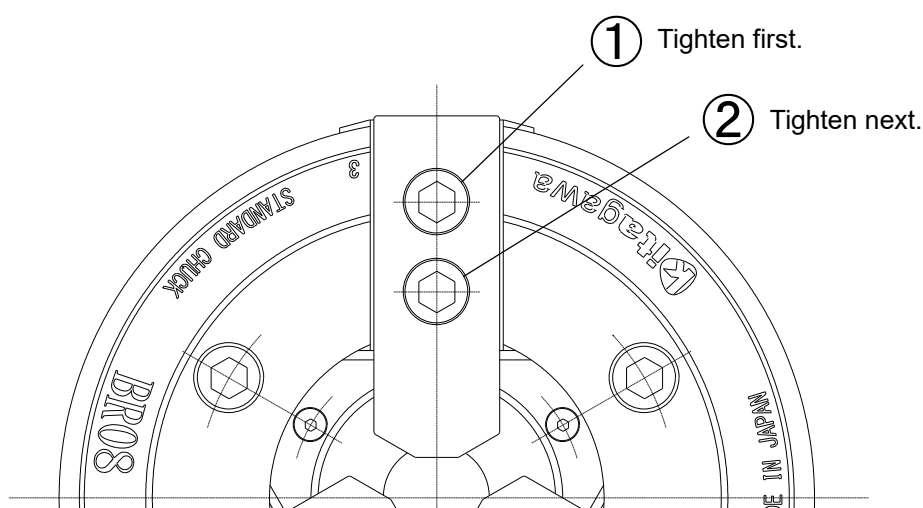

Figure 12-2 Tightening order of the jaw mounting bolts
- To maintain the installation repeatability of the Tnut-Plus for a long period of time, always tighten the jaw mounting bolts from the chuck outside diameter side ① with the specified torque. (See Figure 12-2)